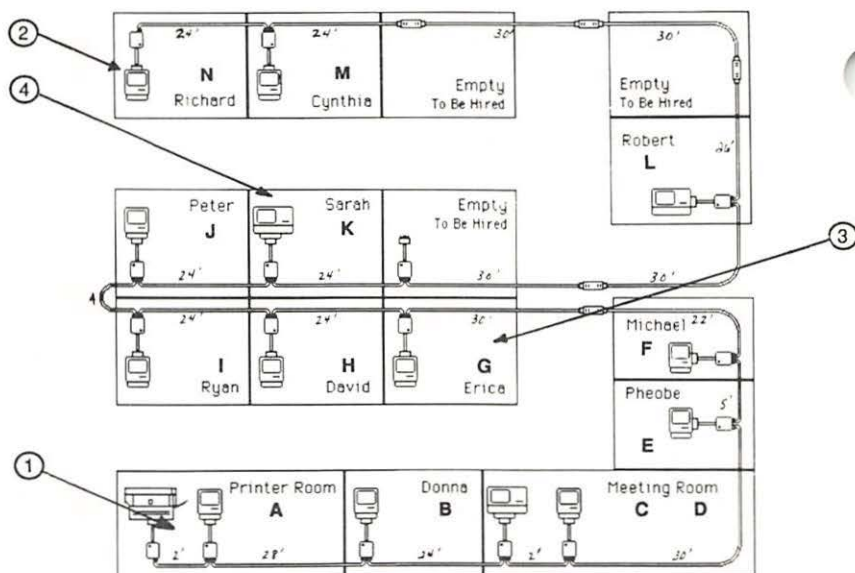

FIGURE 10
1. Start up NetCheck at each end of the system. For example, in the office diagrammed at left, we could start up NetCheck on the computers named A and N (Figure 10, #1 & #2) -- the two ends of the network.
3. If A and N are not both listed, start up NetCheck on a computer in the middle of the network. In our example, you would start up NetCheck on computer G (Figure 10, #3).
5. Now split the bad half of the network in half again, and check to see which side is listed (and therefore OK). For example, run a "Check Network" from computer K (Figure 10, #4). If N is listed on the display, you know that the section of the network between K and N is OK, and the problem must be located somewhere between G and K.